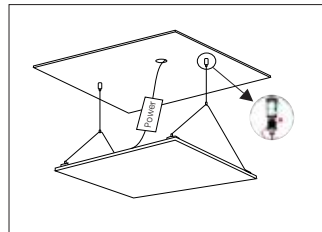

Figure 3
3. Lock the lockpart of the main wire rope to the wire hanger, connect with the power cable. (Figure 3)